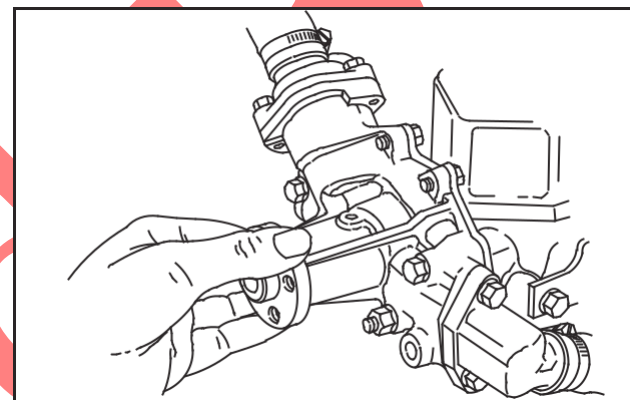

Fig. 7 – Checking Bearings
2. Check water pump bearings by rotating pulley flange by hand, Fig. 7.